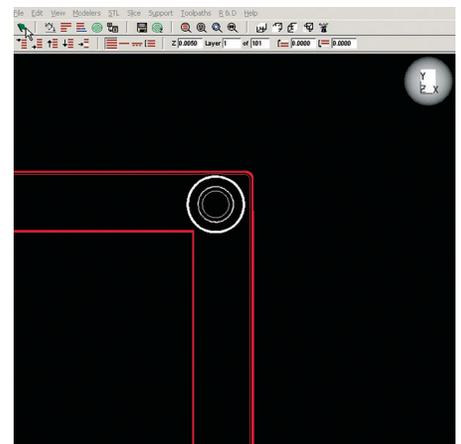

Figure 2: Offsetting
#### Offsetting (figure 2)
**STEP 1:** After slicing the STL file, select the geometry that should be offset. Go to Edit>Offset and the Offset menu will appear on the right side of the geometry window (figure 2).